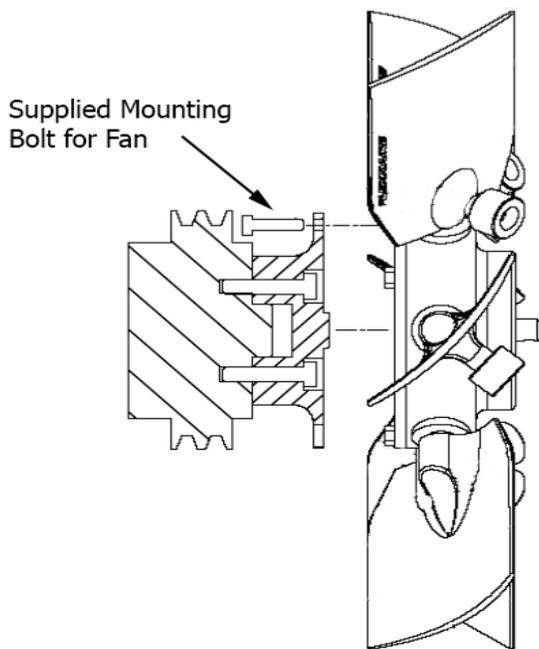

Figure 5
4. Remove the shipping plug from the rear of the fan. Place the Flexxair fan onto the mounting adapter (Refer to Figure 5) and torque the bolts as follows: